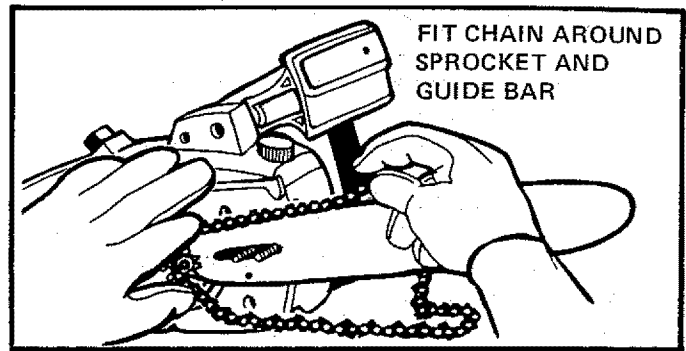

Figure 6
5. Place the chain around the sprocket and fit the drive links into the Guide Bar grooves — first the top and then the bottom groove. Figure 6.